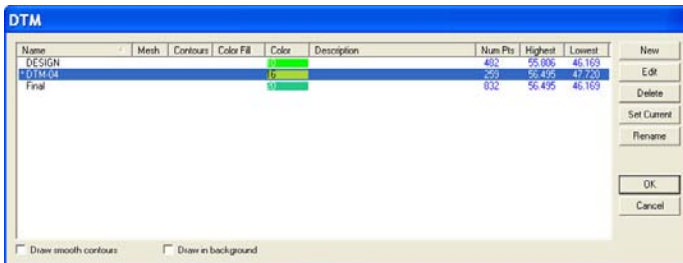

Figure 14-2. DTM Window
1. Click **Surface ► DTM Settings**. The *DTM* dialog box appears (Figure 14-2).
Edit	Edits the highlighted DTM in the DTM dialog box (Figure 14-2 on page 14-2).